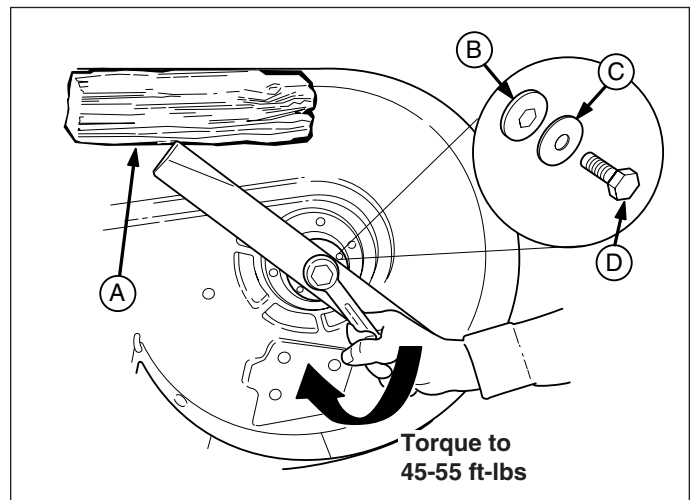

Figure 21. Installing The Blade
6. Reinstall each blade with the tabs pointing up toward deck as shown in Figure 21. Secure with a capscrew (D), cup washer (C) and hex washer (B). Use a wooden block to prevent blade rotation and torque capscrews to 45-55 ft-lbs (61-75 N-m).